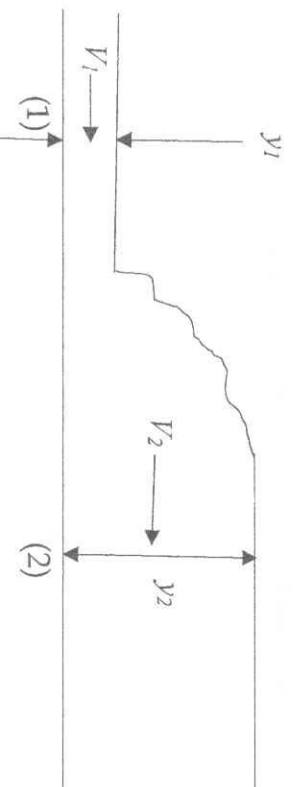

Figure Q2. Definition sketch of hydraulic jump
- (b) A flow of  $100 \text{ m}^3/\text{s}$  occurs in an open channel of rectangular section with width  $b=10 \text{ m}$ . The upstream depth,  $y_1=1.0\text{m}$ . Determine downstream (sequent) depth,  $y_2$  which should be maintained by the downstream control to form a hydraulic jump (Figure Q2).